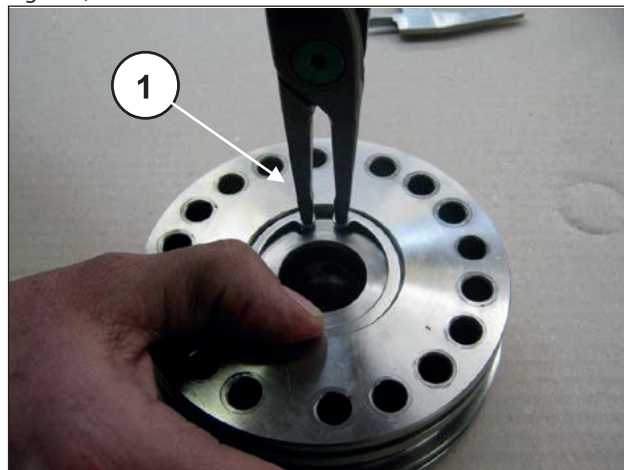
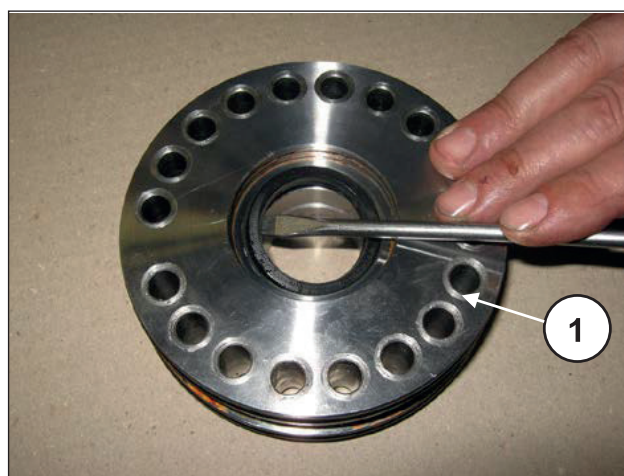

Fig. 190
Fig. 191
Remove the Seeger ring and the seal ring (pos. ①, Fig. 190) from the LP gasket support and with the help of a threaded screwdriver, pull out the LP (low pressure) seal (pos. ①, Fig. 191).